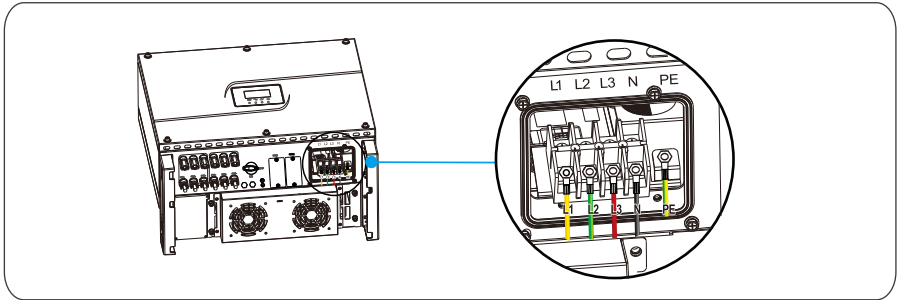

Figure 5.6 Tighten AC wire
Step 3 Loosen the four screws lock on AC OUTPUT door, and connect L1, L2, L3, N and PE through AC OUTPUT terminal cover to the terminal block, use a screw driver to tighten screws to a torque of 3N·m, as shown in Figure 5.6.